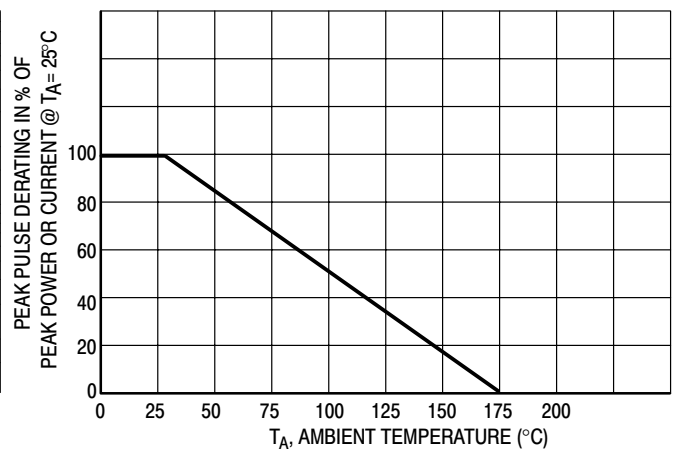
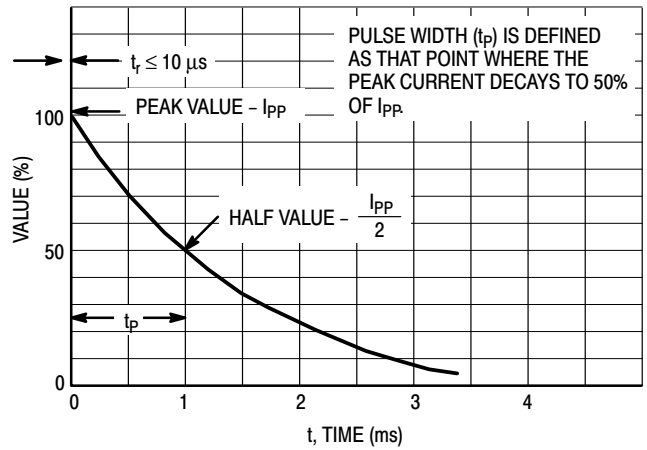

Figure 2. Pulse Derating Curve
Figure 4. Pulse Waveform
1. Nonrepetitive current pulse per Figure 4 and derated above  $T_A = 25^\circ\text{C}$  per Figure 2.
- Surge current waveform per Figure 4 and derate per Figure 2 of the General Data – 1500 W at the beginning of this group